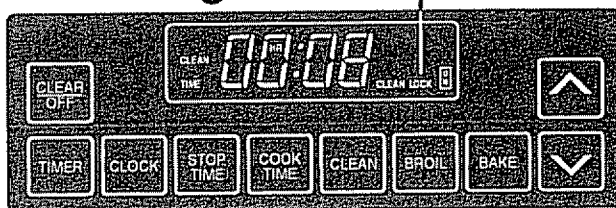

Fig. 3
1. Wait until the **LOCK** display goes out. Allow 30 minutes for oven to cool. The oven temperature must drop to a safe level before the door can be unlocked. See Fig. 3.
① WAIT UNTIL LOCK GOES OUT